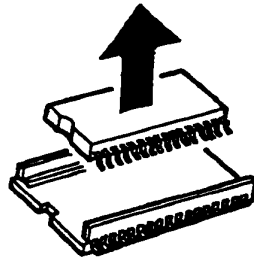

Figure 4-42 Removing the BIOS ROM
5. Remove the BIOS ROM from the BIOS ROM socket (Figure 4-42).